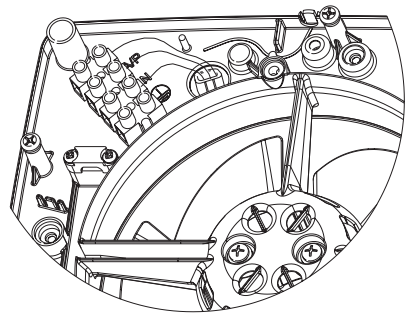

Fig. 4
5. Break tab on fan assembly and feed supply cable (3 core flex, 0.5mm2 min. conductor size, 7mm max. outer cable insulation diameter) to terminal block (Fig. 4).
6. Strip wires of supply cable (strip length 10mm) and connect to terminals on terminal block marked A/P (Active), N (Neutral) & ⊕ (Earth) (Fig. 4).